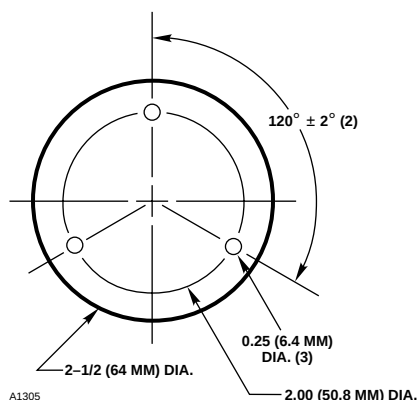

Figure 12—Mounting Base Dimensions
3. Mount the detector junction box base and mounting bracket assembly on the wall or ceiling. See Figures 12 and 13 for dimensions of the mounting bracket. The mounting surface should be free of excessive heat and vibration.